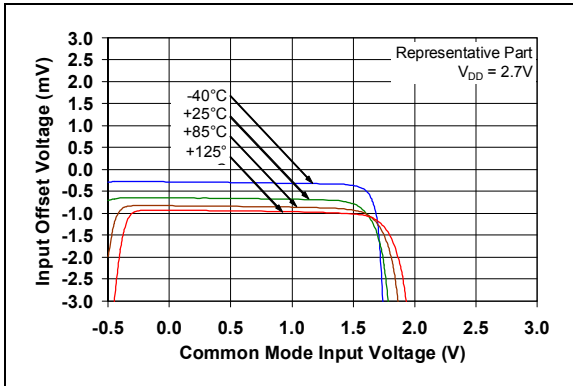

**FIGURE 1-1:** AC and DC Test Circuit for Most Specifications.
Electrical Characteristics: Unless otherwise indicated, $T_A = +25^\circ\text{C}$ , $V_{DD} = 5.0V$ , $V_{SS} = \text{GND}$ , $V_{CM} = V_{SS}$ , $V_{OUT} \approx V_{DD}/2$ , $V_L = V_{DD}/2$ , and $R_L = 10\text{ k}\Omega$ to $V_L$ (refer to <a href="#">Figure 1-1</a> ).
**Electrical Characteristics:** Unless otherwise indicated,  $T_A = 25^\circ\text{C}$ ,  $V_{DD} = +5.0\text{V}$ ,  $V_{SS} = \text{GND}$ ,  $V_{CM} = V_{SS}$ ,  $V_{OUT} \approx V_{DD}/2$ ,  $V_L = V_{DD}/2$ ,  $R_L = 10\text{ k}\Omega$  to  $V_L$  and  $C_L = 60\text{ pF}$  (refer to Figure 1-1).
The circuit used for most DC and AC tests is shown in Figure 1-1. This circuit can independently set  $V_{CM}$  and  $V_{OUT}$ ; see Equation 1-1. Note that  $V_{CM}$  is not the circuit's common-mode voltage ( $(V_P + V_M)/2$ ) and that  $V_{OST}$  includes  $V_{OS}$ , plus the effects (on the input offset error,  $V_{OST}$ ) of temperature, CMRR, PSRR and  $A_{OL}$ .